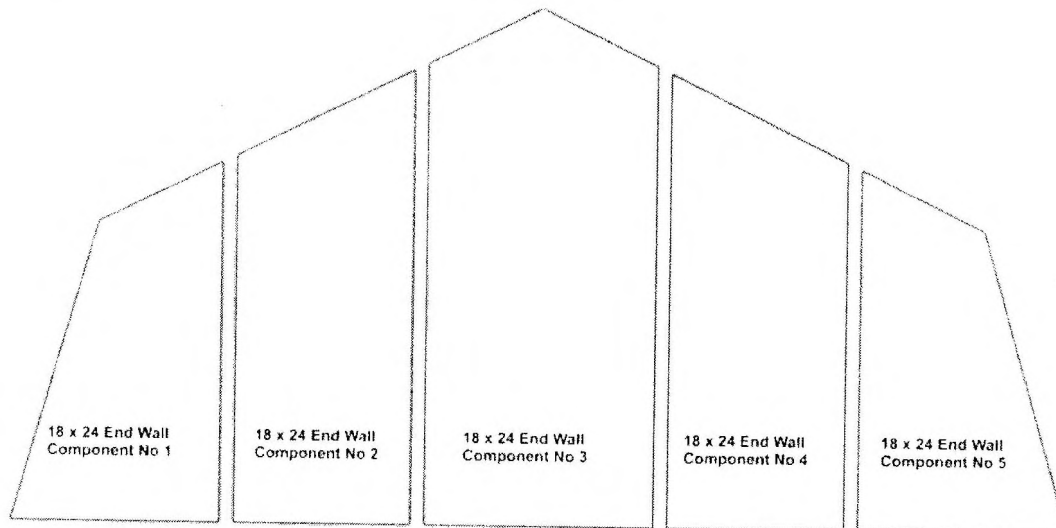

Figure 64: The Mk 3 Insulation end panel (Viewed from inside)
68. Once the tent is fully erected with the roof insulation fitted and the PVC covers fitted the wall insulation can now be fitted. The Mk 4 Insulation end panel consists of 5 items per end and are shown in Fig 64, viewed from the inside.